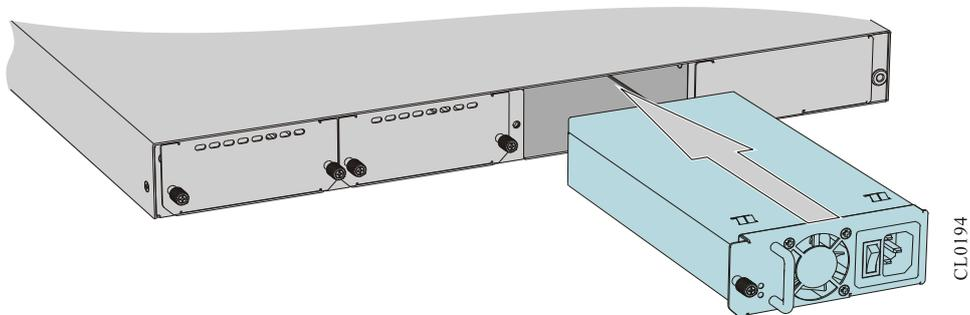

FIGURE 5-3 INSERT THE POWER MODULE
Step 4: Push another power module along the guide slot slowly and horizontally until the back of the power module well contacts with the main board slot, as shown in Figure 5-3: